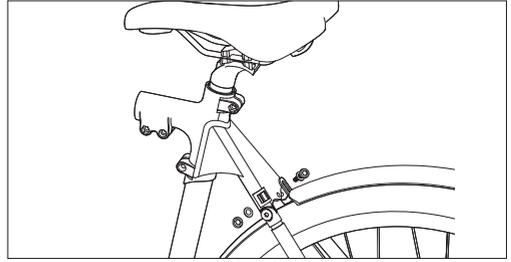

Figure 6-1
- After aligning the fender with the screw hole, re-tighten the mounting screws to affix it onto the seat tube joint, as shown in **Figure 6-1**.